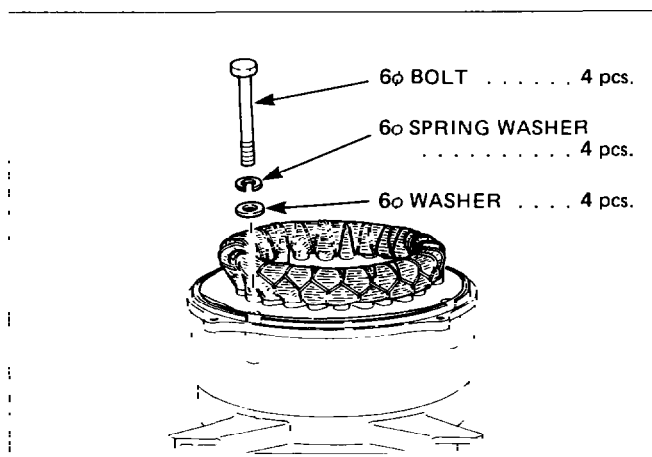

Fig. 10-25
Tighten the four bolts tentatively to check if the grooves and thread holes are aligned correctly. (See Fig.10-25.)
(4) Join the stator to rear cover with four bolts, washers and spring washers. (See Fig.10-25.)